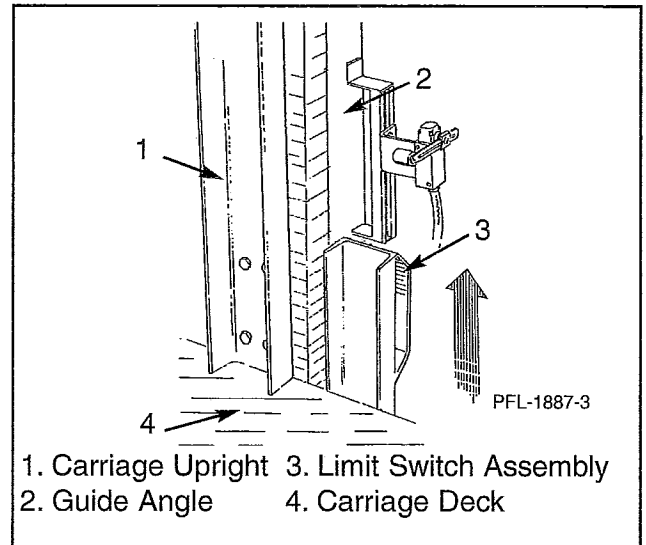

Figure 2
1. LOWER LEVEL - With the carriage resting on the lowest level, tack weld or clamp a limit switch assembly (L-bracket with limit switch mounted) to the column. The unistrut mounts should be positioned flush with the outside edge of the column. Do NOT weld to the column at this time. See Figure 2.